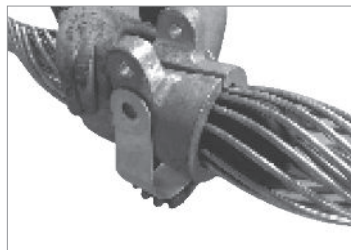

FIGURE 7: Place the housing around the "caged" insert
- 5.01 Place the two halves of the suspension body around the "caged" insert at the assembly's center. (see **Figure 7**).